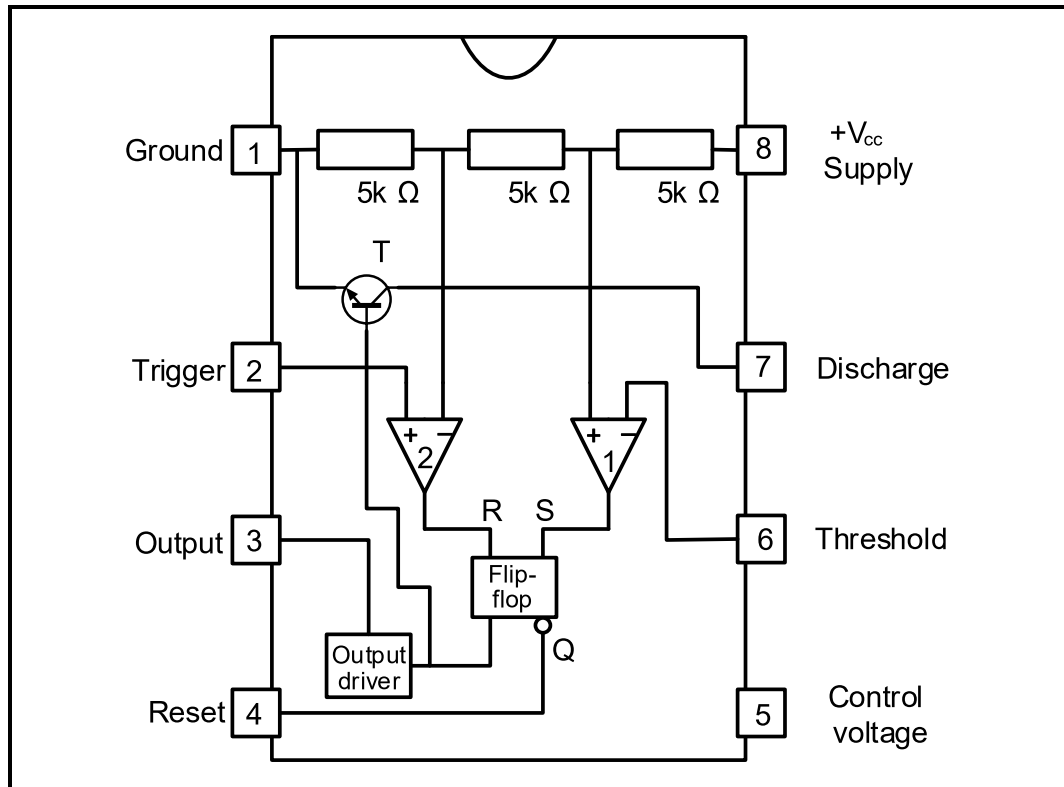

FIGURE 4.3: 555 IC PIN LAYOUT
4.3 Refer to FIGURE 4.3 below and answer the questions that follow.
- 4.3.4 State the functions of the following components in FIGURE 4.3 above:
- (a) NPN transistor (1)
- (b) Comparator 2 (1)